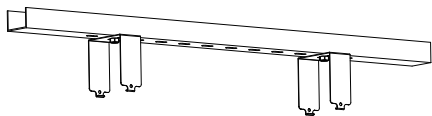

Figure 5
- SSStep1. Mount the bracket on the rail or ceiling; (Figure 5)